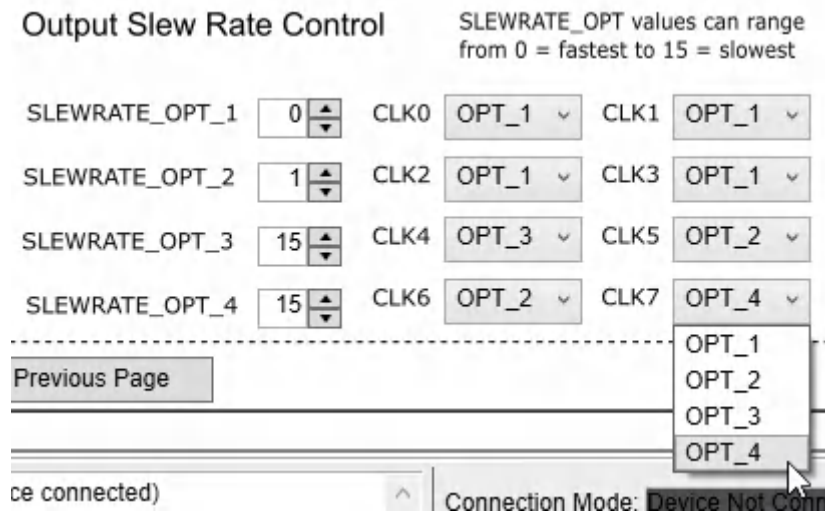

Figure 4-5. Setting Output Slew Rate Example in TICS Pro 2
- a. Following the example from step 1a, if you wanted CLK0, CLK1, CLK2, and CLK3 to have the fastest slew rate, CLK4 and CLK7 to have the slowest slew rate, and CLK 5 and CLK6 to have the second fastest slew rate, set the drop-down menus of CLK0, CLK1, CLK2, and CLK3 to OPT_1, CLK4 and CLK7 to OPT_3 or OPT_4, and CLK5 and CLK6 to OPT_2 as shown in Figure 4-5. Repeat this step to set the slew rate of the other 12 outputs.